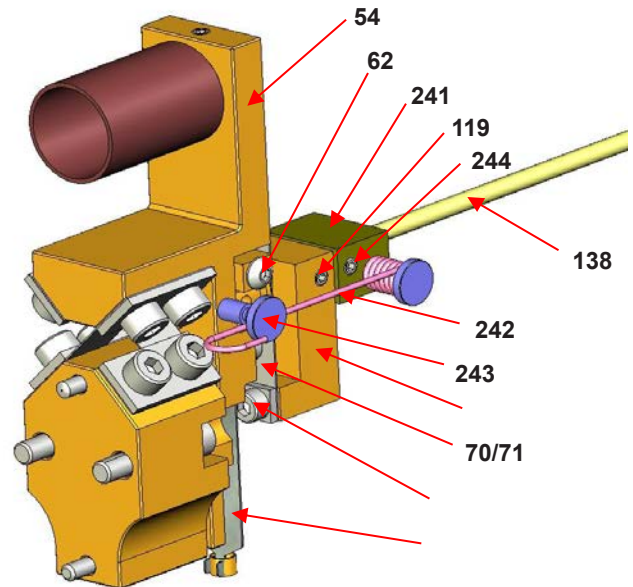

Figure 21
- a. Mount the torque tube (137) on a support. The knife pivot at the back of the tube must be oriented toward the top.
- b. On the transmission rod (138), mount the bias assembly (241).
- c. On the transmission rod (138), mount the coupling S/A (75) including flange (116), coupling flexure S/A (70) [incl. flexure (71), pin (72) and washer (73)], flange (117) and its two loosened screws (118) (see figure 21).
- e. Position the sub-assembly vertically on the rod so that the distance between the coupling flexure (71) and the torque tube flange is 59.5 mm \pm 0.5 (see figure 21). Firmly tighten this sub-assembly to the rod, using the two lateral screws (119).
- f. Put the bias at 1 mm from the coupling S/A, align the bias S/A with the coupling S/A and tighten it on the rod with the two lateral screws (244)
- g. Verify that the screw (62) on the beam (54) is loose.
- i. Slide the case into the torque tube flange while observing through the side opening that the pin (72) is inserted into the beam coupling end. Use a flat tool to easily backup the coupling flexure (71).
- j. When the case is in contact with the torque tube flange, verify that the beam is free to rotate by placing your finger on the flexure (59) through the lower 3/4" NPT hole.
- k. Fasten the case with four screws (121) and washers (122). Firmly tighten.
- l. Verify again that the beam is free to rotate and that the coupling flexure (71) is not deformed. The coupling on the beam (54) is tightened later.